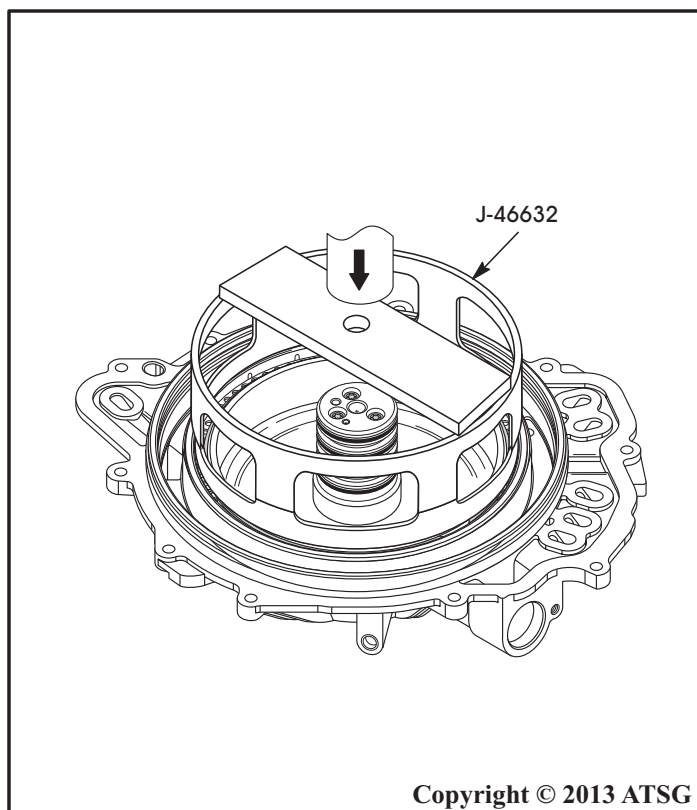

Figure 132
12. Compress the return spring using the J-46632 compressor tool, as shown in Figure 132, and install the snap ring.